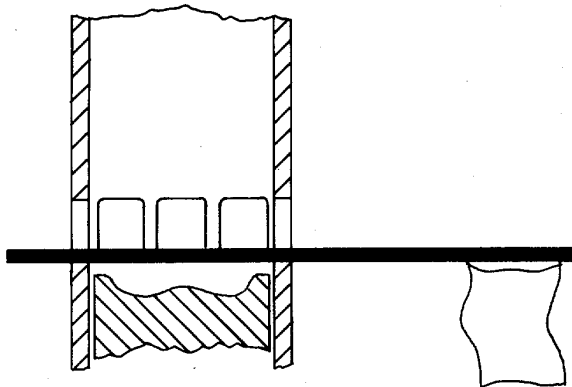

Fig. 7-14 - "Stop-Bar" Inserted Through Cylinder Ports
3. Insert a brass "stop-bar" (minimum 12.7 mm [1/2"] hexagonal or square preferred) of suitable length through the ports of the No. 1 cylinder so that the end of the bar passes through a port on the opposite side of the cylinder, Fig. 7-14.